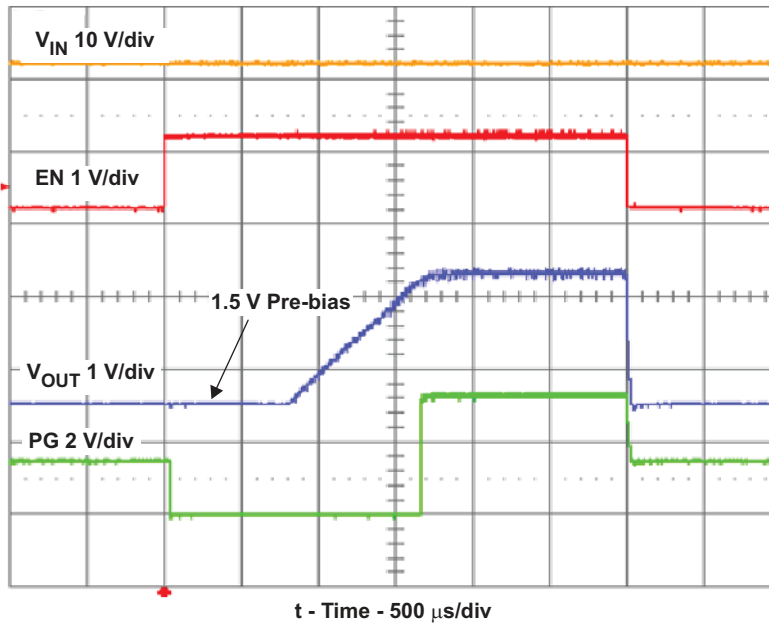

Figure 3-14. TLV62130 Prebias Start-Up and Shutdown on EN With 1-A Load and $V_{IN} = 12$ V
- (1) EVMs made before August of 2013 use the non-A version of U1. The only difference between these devices is the operation of the PG pin when the device is disabled, as shown in Figure 3-14 and Figure 3-15.